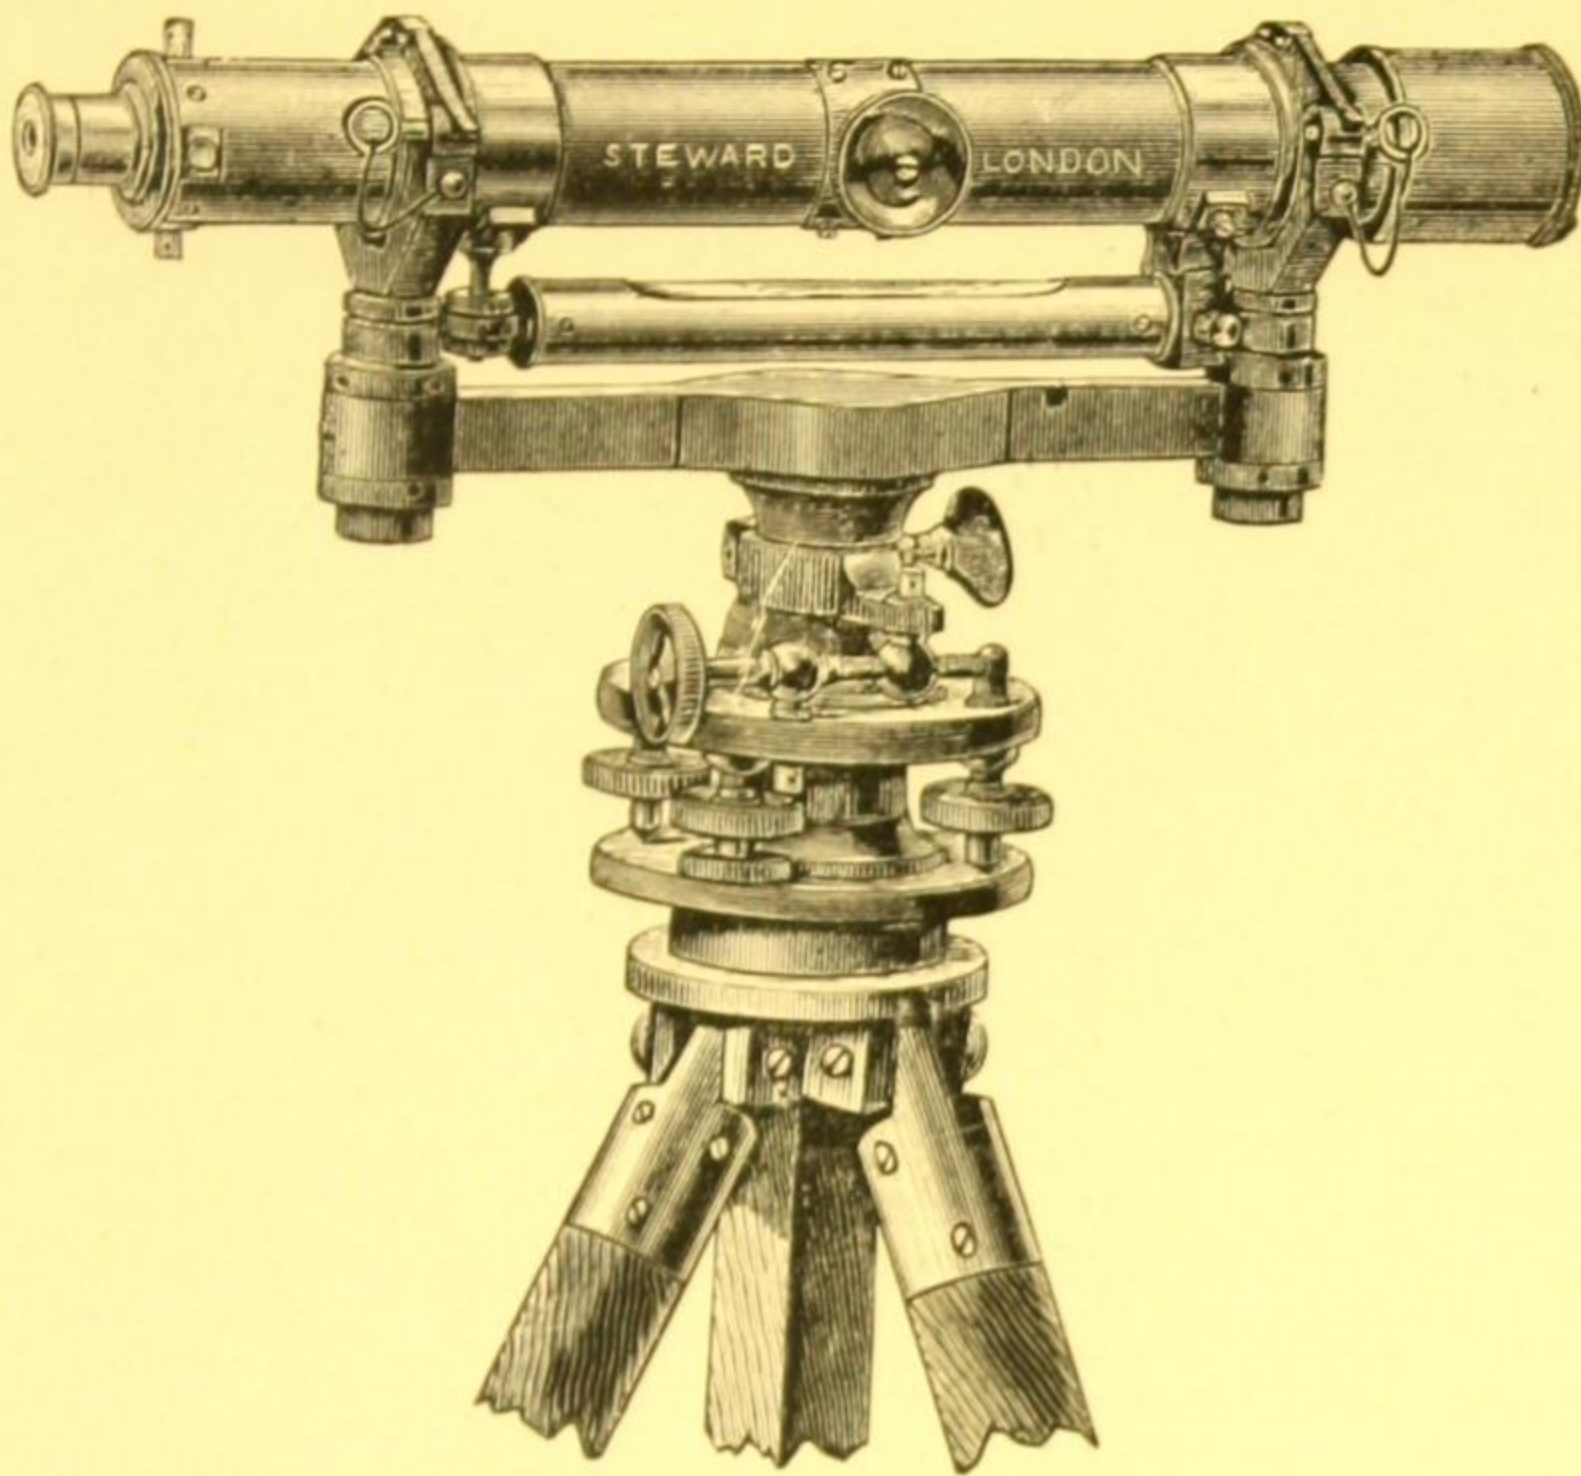

Fig. 14. Y Level, with 4 Screws, without Compass.
**Y Level** with telescope reversible in its supports, one support being adjustable vertically. The telescope is the "ordinary" type described on page 4, and has rack focussing adjustment to object-glass end. Ray shade and shutter. Webbed diaphragm unless ordered otherwise. Graduated bubble to underside of telescope. Tangent screw fine adjustment with clamp to axis. Levelling head with 4 screws, as illustrated Fig. 14 or 3 screws with locking plate permanently attached. Mahogany box with lock and key. The prices quoted include a solid round pattern mahogany tripod (SM 77). These levels are made with or without a compass. The compass has a floating aluminium ring divided to  $\frac{1}{2}$ -degrees with locking stop and reading microscope, and the extra cost of same is quoted separately.